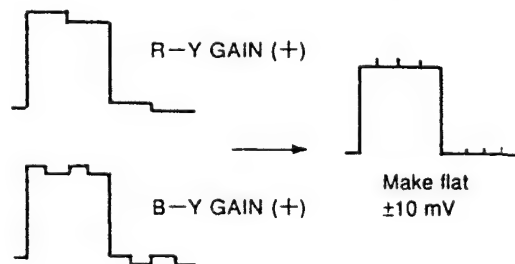

Fig. 2-10.
4. As shown in Fig. 2-10, adjust the R-Y GAIN data and B-Y GAIN data so that the GREEN waveform becomes flat.